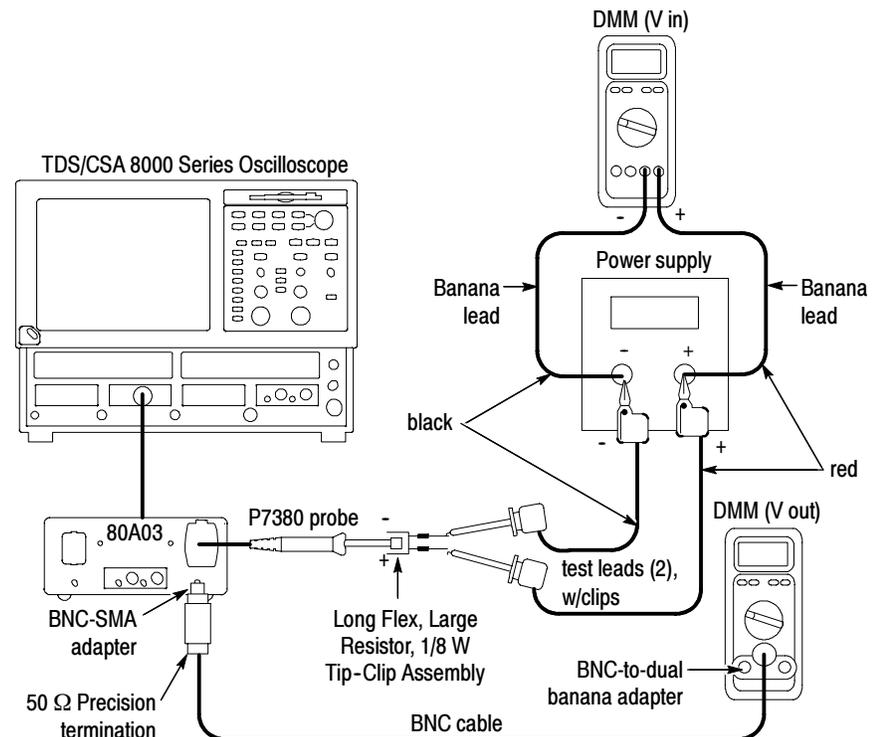

Figure 12: DC Gain Accuracy setup
2. Connect the probe with a Tip-Clip Assembly to the power supply as shown in Figure 12. Monitor the source voltage with one of the DMMs.